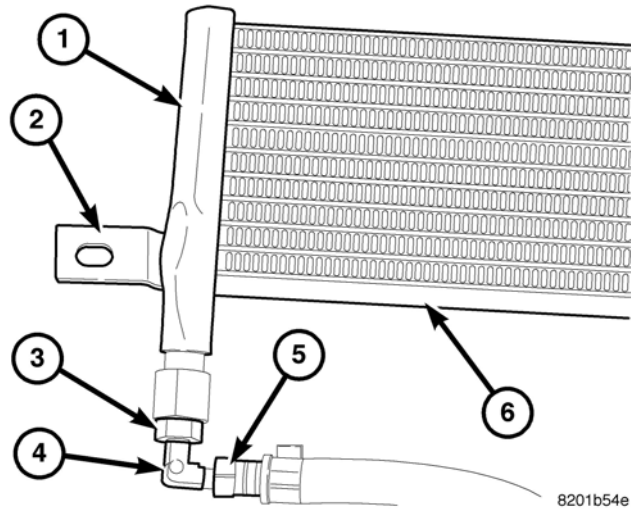
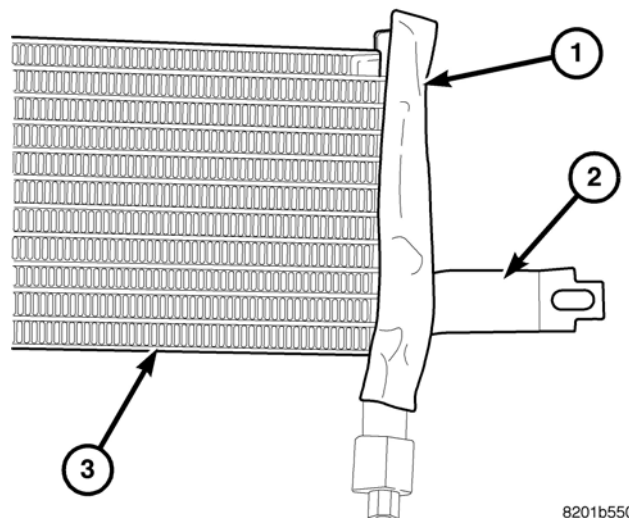

Fig. 9 TRANSMISSION COOLER ASSEMBLY - LEFT SIDE
Fig. 10 TRANSMISSION COOLER ASSEMBLY - RIGHT SIDE
15. Cut foam (p/n 05019056AA) into half. Peel adhesive protection tape from the foam and place one piece of the foam onto each side transmission cooler side tank, (Fig. 9) and (Fig. 10). The foam is placed on the side of the transmission cooler that faces the cooling module.